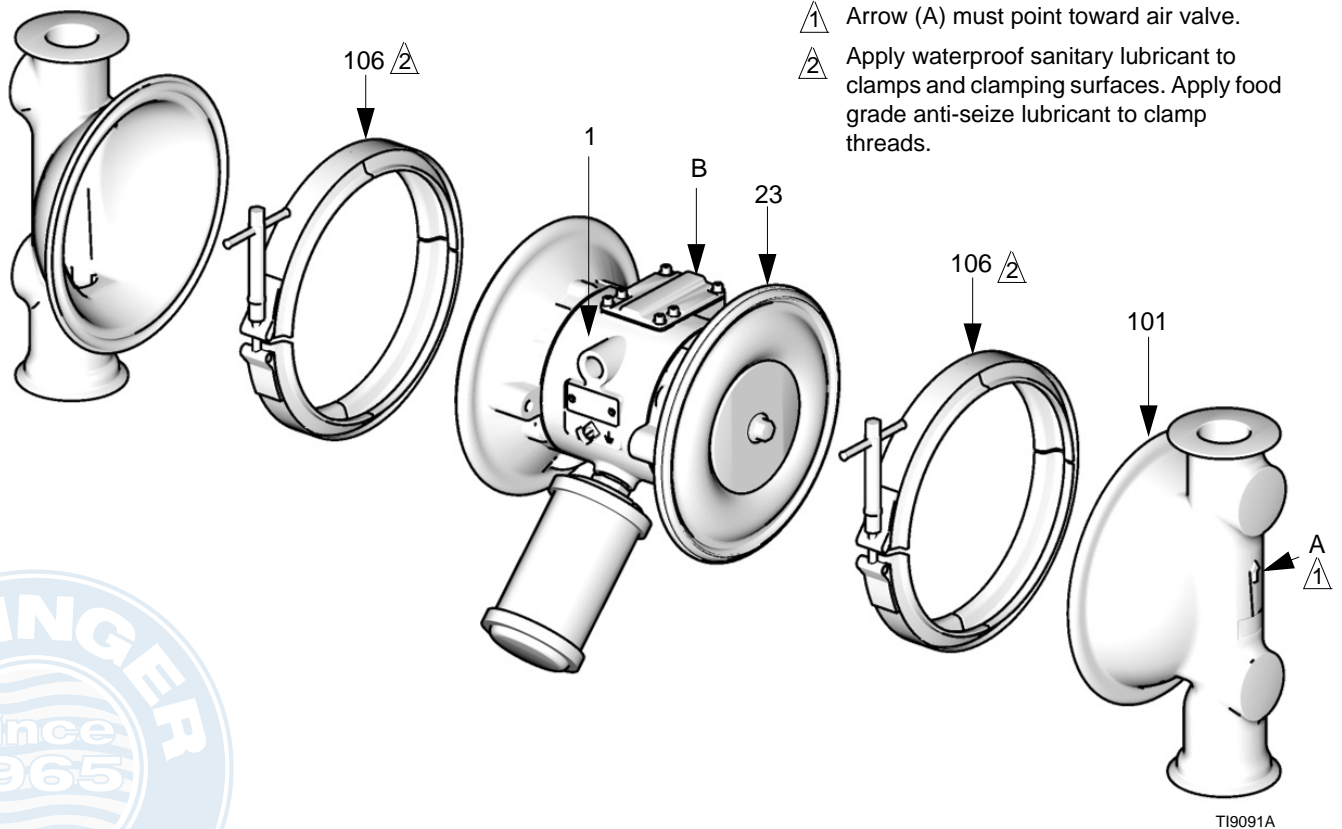

FIG. 10
3. Remove the clamps (106) holding the fluid covers (101) to the air covers (23). Pull the fluid covers (101) off the pump. See FIG. 10.